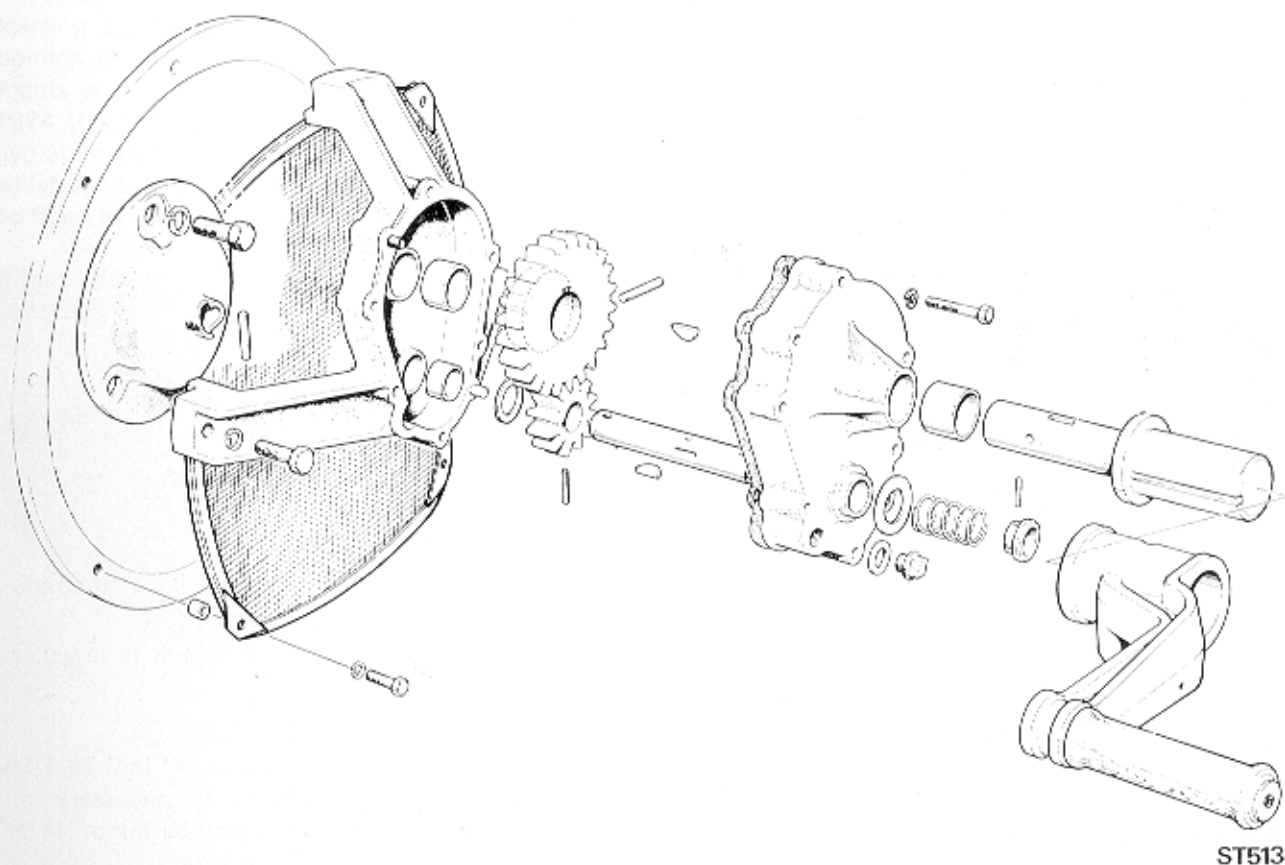

Fig. 95. Components of Geared Hand Starting (ST2/3)
**GEARED HAND STARTING (Fig. 95)**
#### Flywheel Guard (Fig. 95)